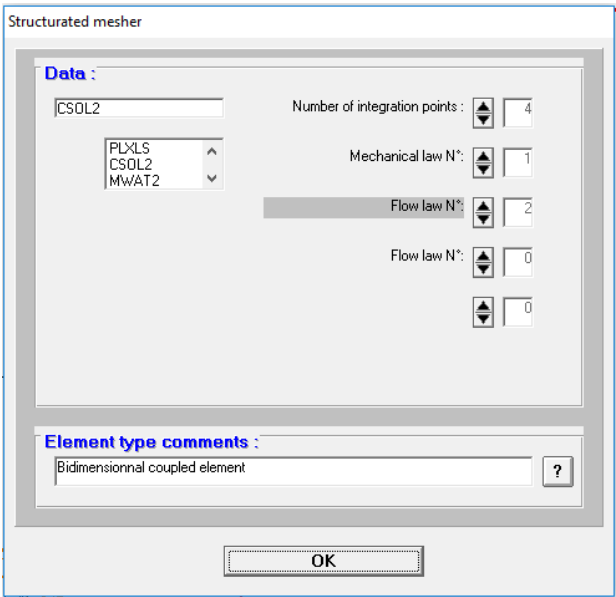

Figure 7.1 Choice of elements for the structured mesher in *Geometry*.
- **Structured mesh** The *PLXLS* elements used in the previous examples are only valid for a purely mechanical analysis. In order to allow for both a mechanical law and a flow law, one should use the *CSOL2* elements for the structured mesher (Figure 7.1). Mind the numbering of the laws of the simulation, as a unique number is assigned to each law.